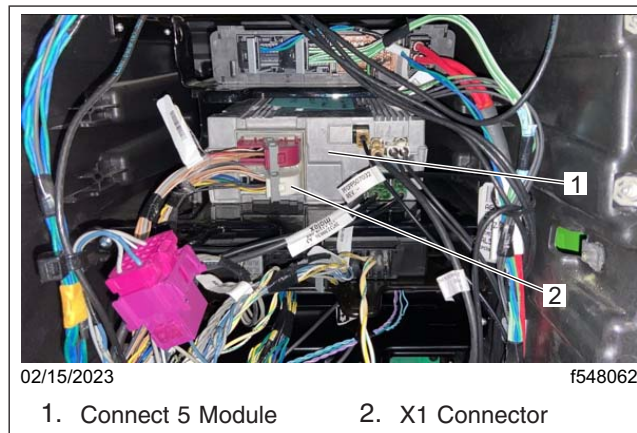

Fig. 17, Connect 5 and X1 Connector Location
- 13.2 Route the two black wires (circuits 545H and GRD) toward the Connect 5 module X1 connector (white latch connector). See Fig. 17.